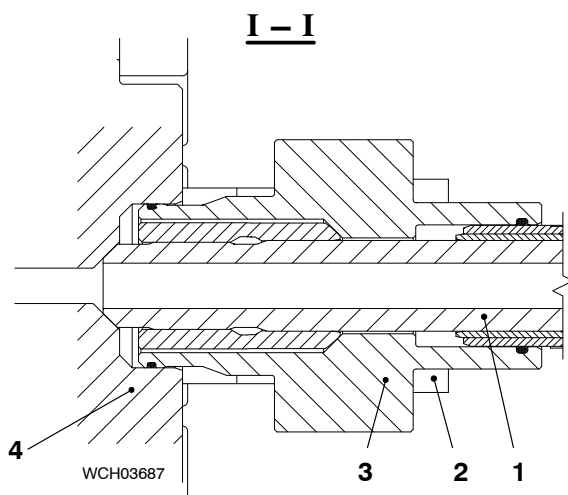

Fig. 3
- 10) Loosen the four screws (2, Fig. 3) on the flange (3) a maximum of three turns.
- 11) Move the flange (3) away from the valve housing (4) and make sure that air goes into the HP fuel pipe (1).